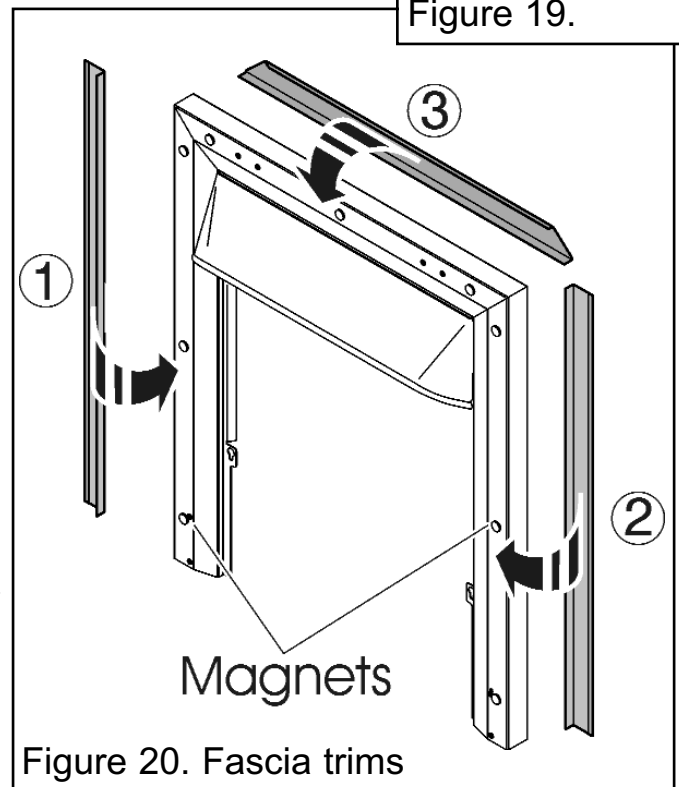

Figure 20. Fascia trims
3. The fascia is supplied with three decorative trims. Where fitted, remove any protective film from the surface of the trims. Locate the trims as in figure 20. Locate the side trims first.